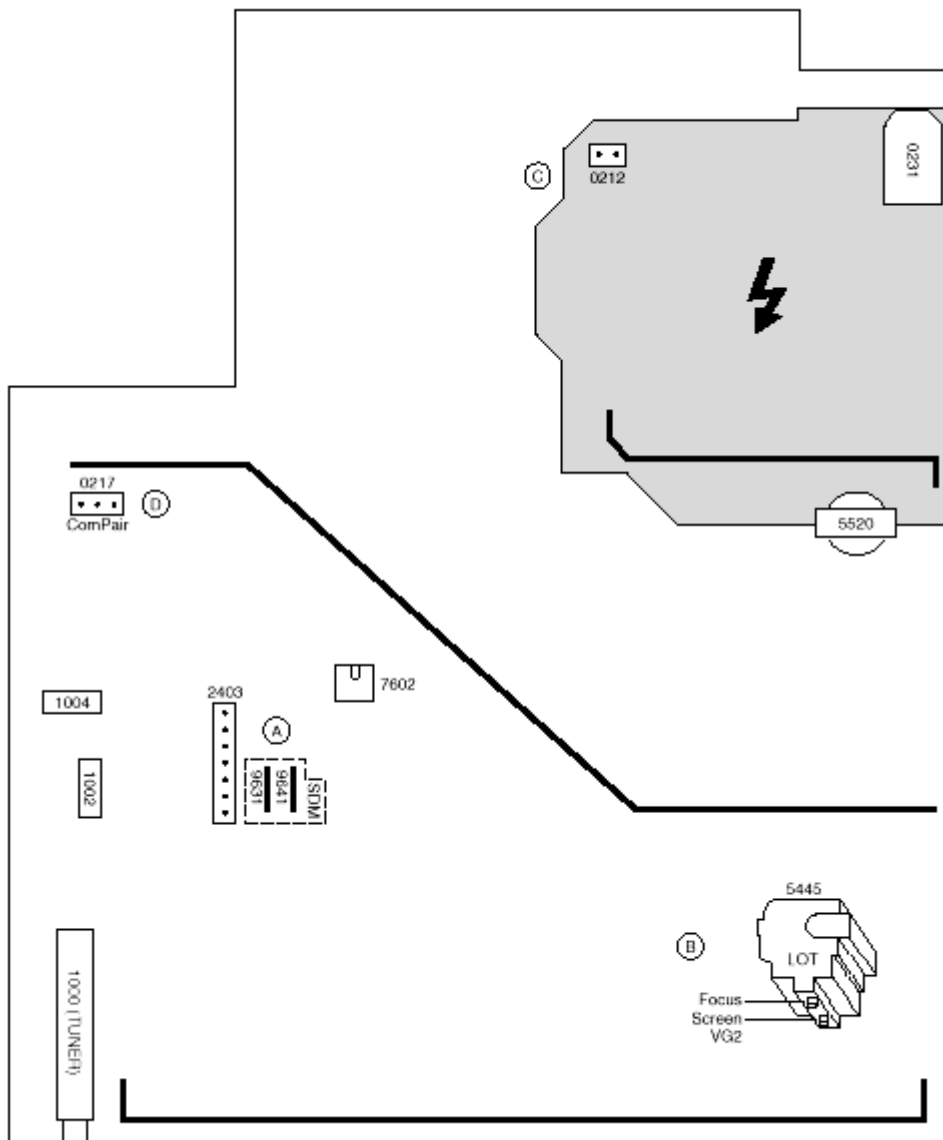

Fig. 1
- Select the cathode with the highest V_{DC} value for the alignment. Adjust the V_{cutoff} of this gun with the SCREEN potentiometer (see Fig. 1) on the LOT to the correct value (see table below).
- Adjust the FOCUS potentiometer (see Fig.1) until the vertical lines at 2/3 from east and west, at the height of the centerline, are of minimum width without visible haze.